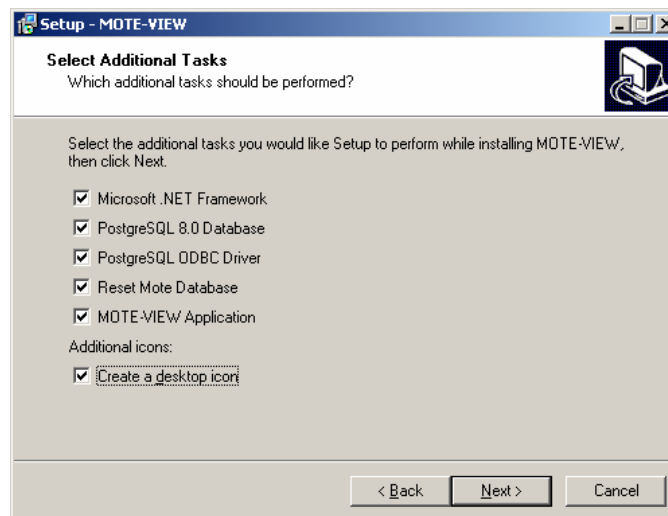

Figure 2-3. Step 6: Select all options if installing MOTE-VIEW for the first time.
6. Select all available installation tasks and click **Next>** (see Figure 2-3).